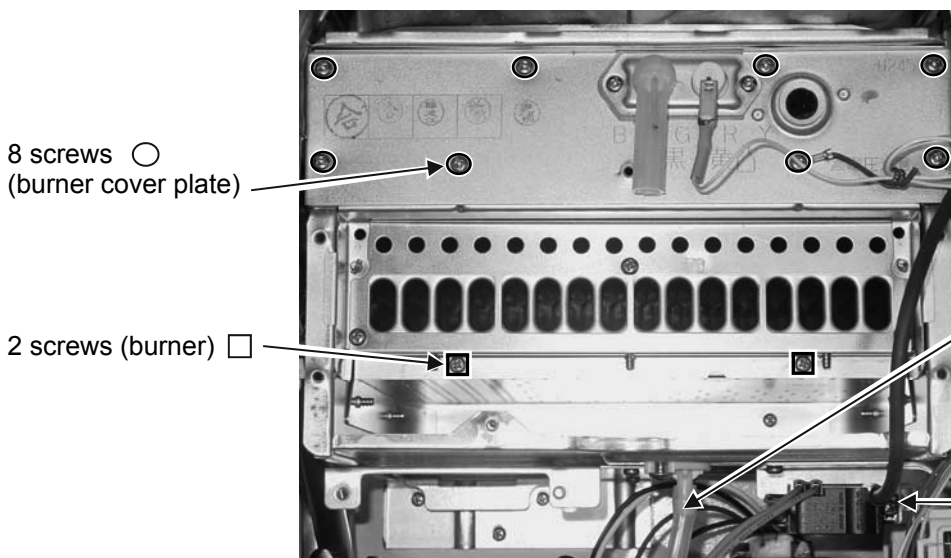

Figure 47
Remove Burner and Burner Cover Plate (Figure 47)
32. Connect the pressure tube. Attach the ignition line connection with 1 screw. (Figure 47)
Install Burner and Burner Cover Plate (Figure 47)